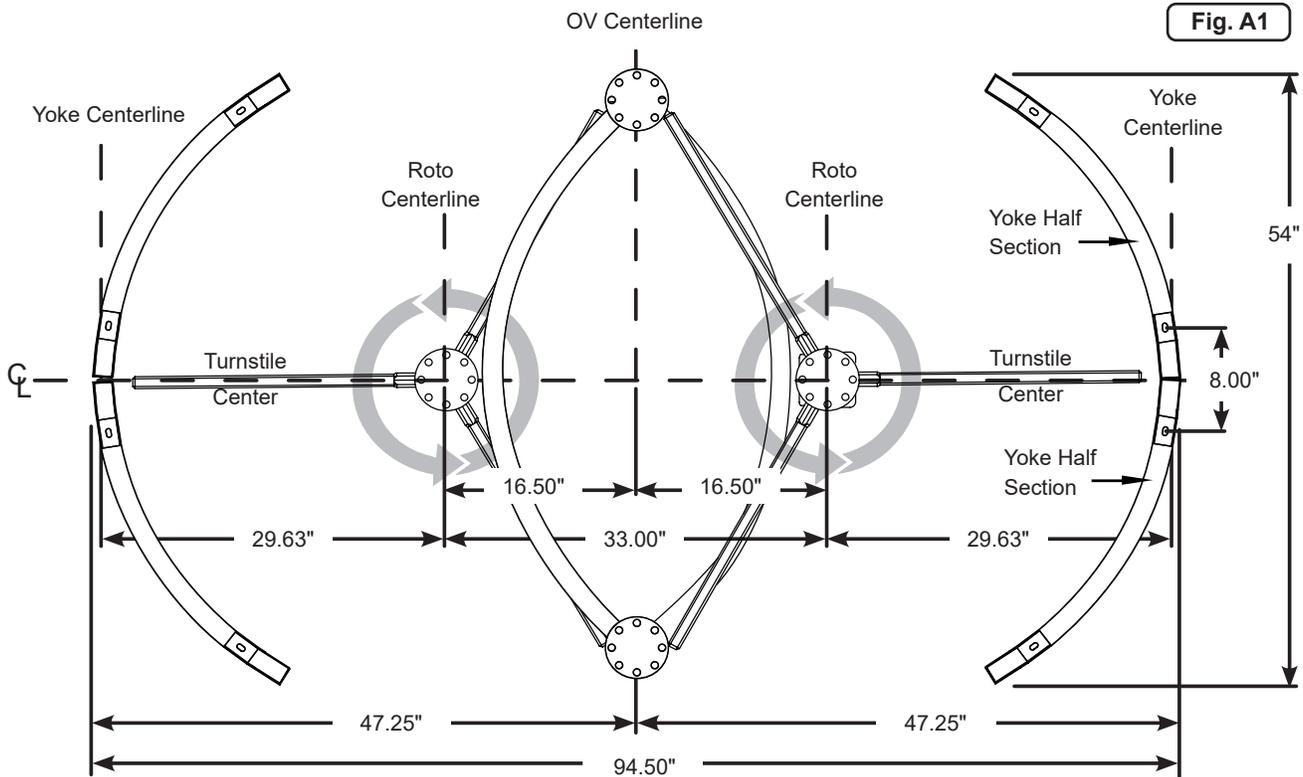

Fig. A1
- Determine where the turnstile will be installed. Consider the overall footprint size of the unit when determining the installation location (Figure A1).